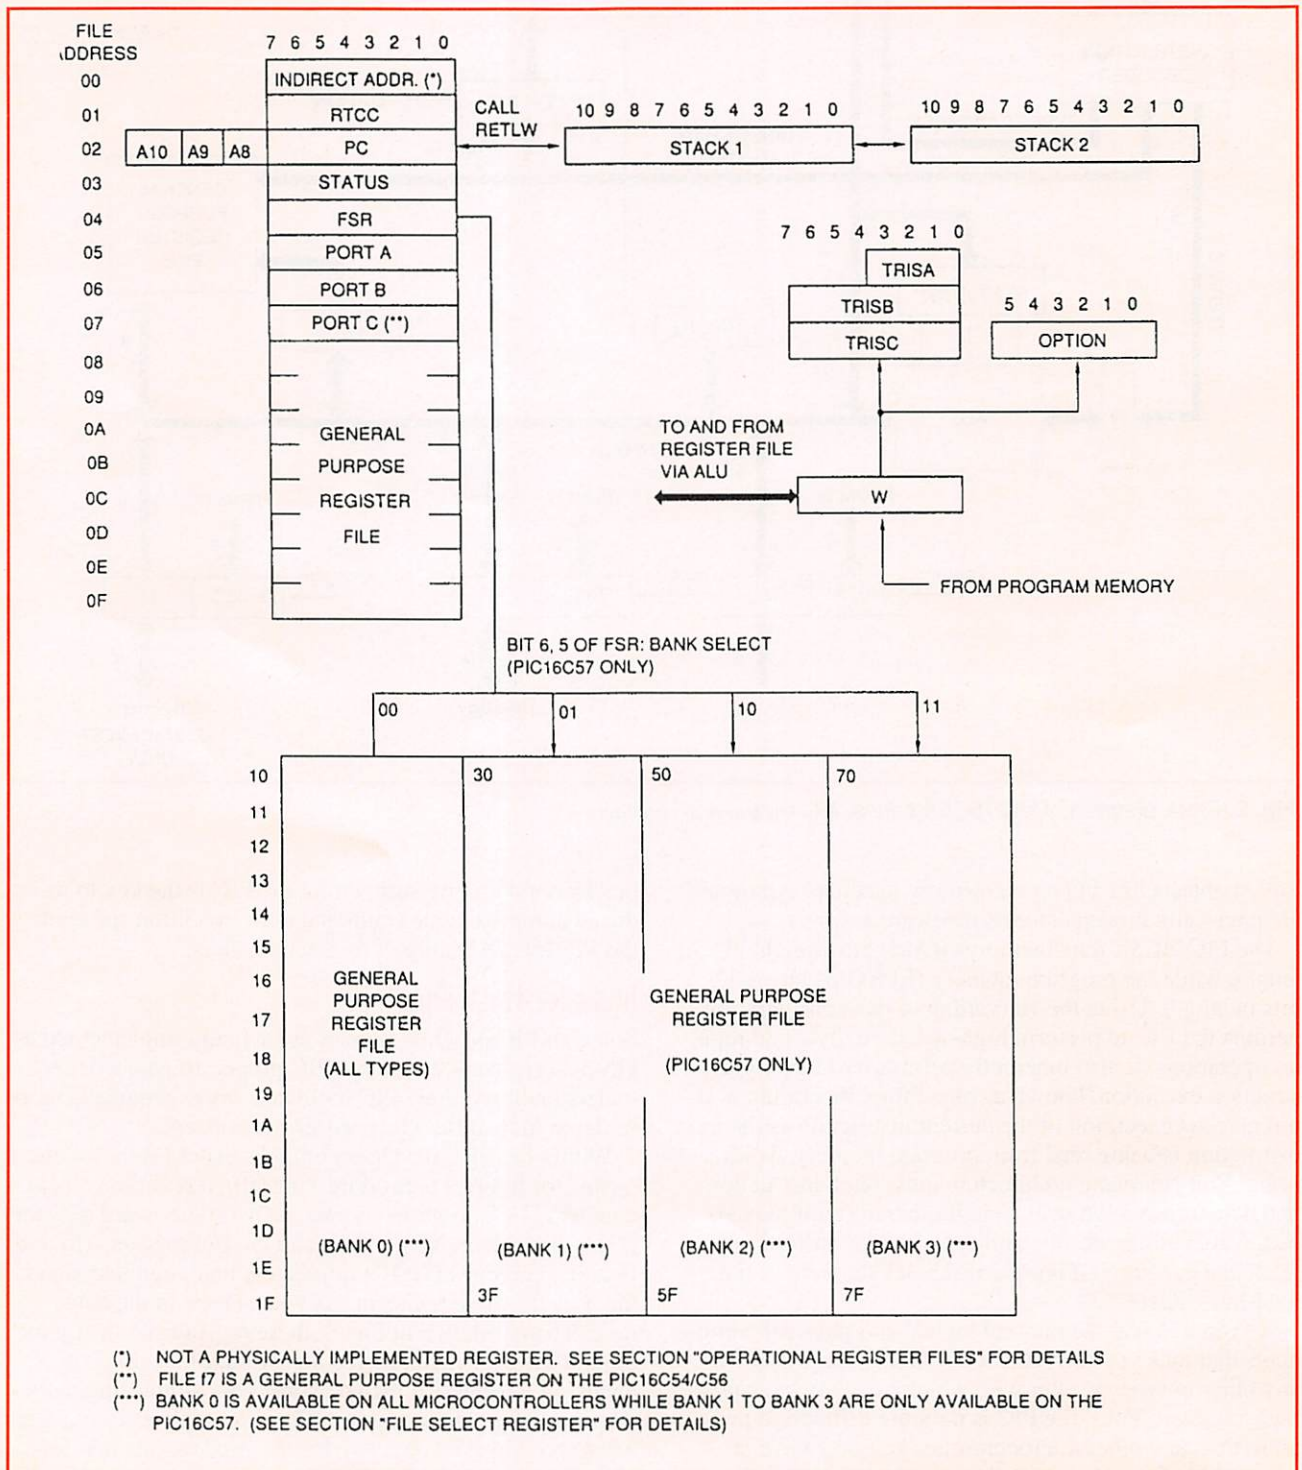

Fig. 3. Data memory map for PIC16C5X. (Courtesy Microchip Technology)
• **General-Purpose Registers.** The second set of registers, known as the General-Purpose Registers, is defined as f08 through f1F (addressed 08 through 1F hex) for the PIC16C54, PIC16C55 and PIC16C56. Referring to Fig. 3, you'll note that the PIC16C57 extends General Purpose Register presence to f7f (addressed 7F hex) via bank switching. General Purpose Registers are most commonly used as internal user RAM.